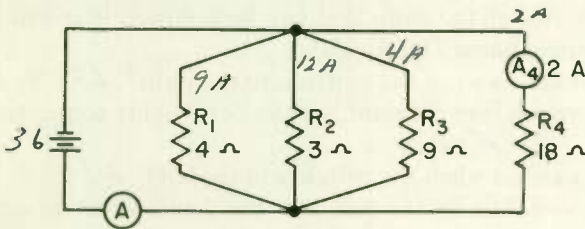

Fig. 10
1. Ammeter A in Fig. 10 reads 27 amperes.